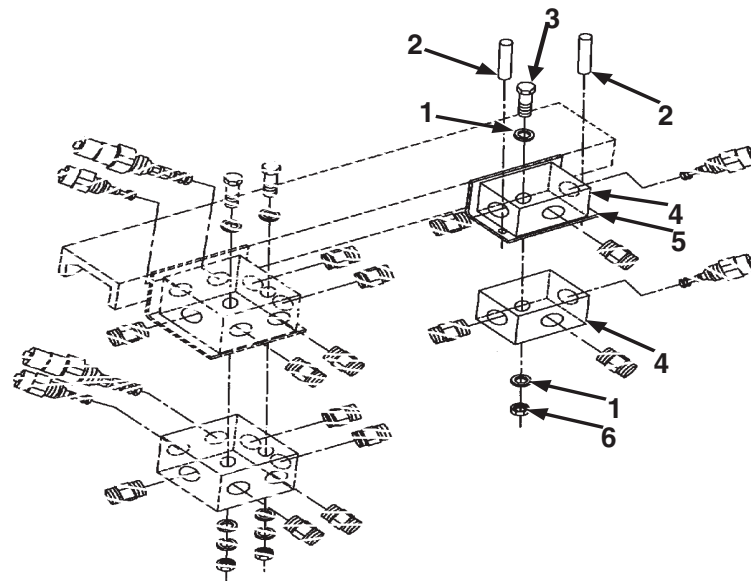

Figure 50. Flow Valve Bodies.
Step 1a applies to Figure 50.
- a. Remove screw (item 3), two flat washers (item 1), nut (item 6), two pins (item 2), and flow valve bodies (item 4) from bracket (item 5).